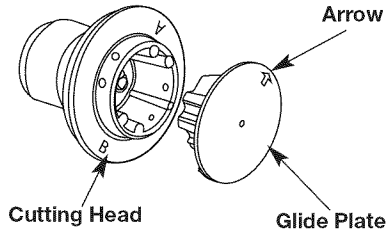

Fig. 10
3. Reinstall line glide plate (Fig. 10). Align arrow with: